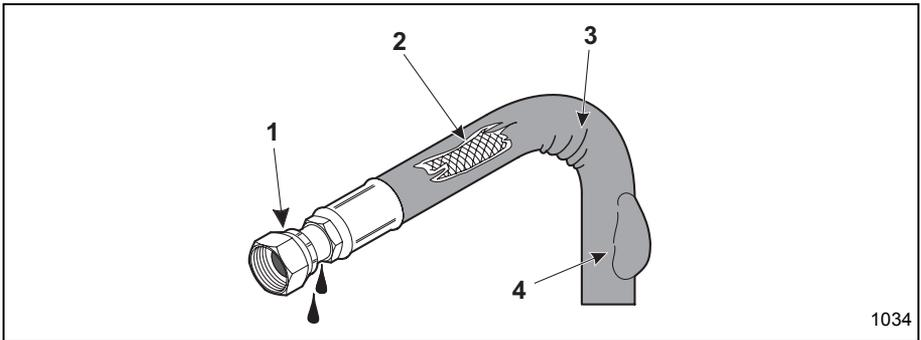

Figure 4-8 Hydraulic Hose Damage
- g. Some examples of common hydraulic hose damage are shown in (Figure 4-8):